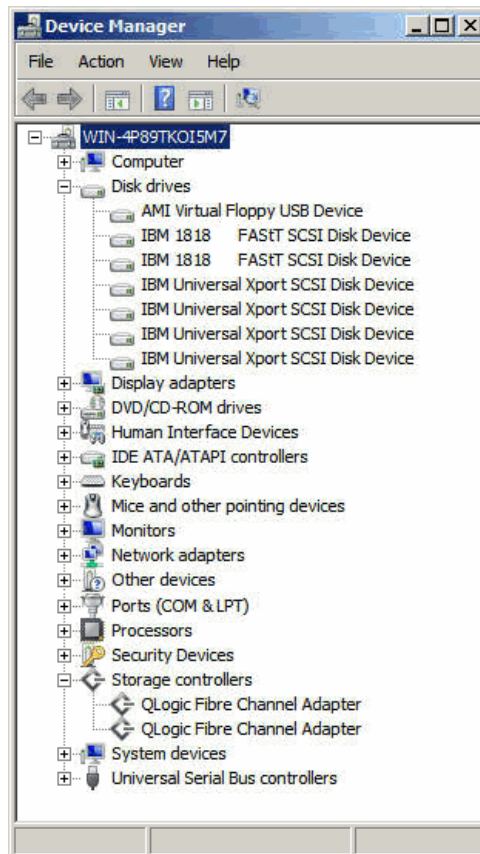

Figure 2-84 Device Manager with no multipathing
1. Open the *Device Manager* in Windows from the **Start Menu** → **Control Panel** → **System**. You see a window similar to Figure 2-84. You must see an *IBM 1818 FAStT Multi-Path Disk Device*, which is your boot LUN in this case. You will see two of them, due to the fact that one of them is seen from controller A and the other is from controller B. In our case, because the LUN was assigned to controller A, only this one is read/write. The other one is read-only. When we install the multipath driver, it will mask the two paths into one.